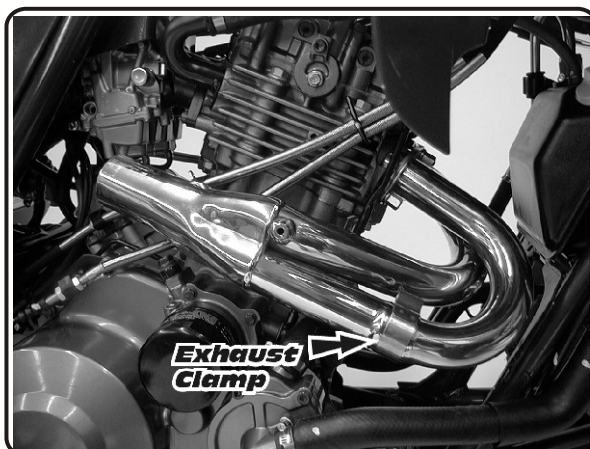

Fig. 3
- 4 Install header using supplied exhaust clamp with stock nuts. (See Fig.3) Torque to 1.25 kg-m (9 lb-ft)